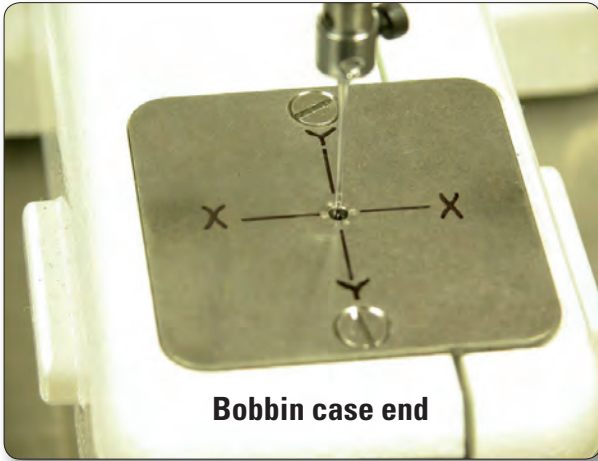

Figure 8.1
Note: The x and y axis markings, shown in Figure 8.1, are for illustration purposes only, and are not reflected on actual needle plate.
- Use a new System 134/Size 100 needle. Check the needle for straightness on a flat surface such as the needle plate. The needle must be centered in the stitch hole of the needle plate as shown in Figure 8.1. (2 mm and 3 mm handle Allen)